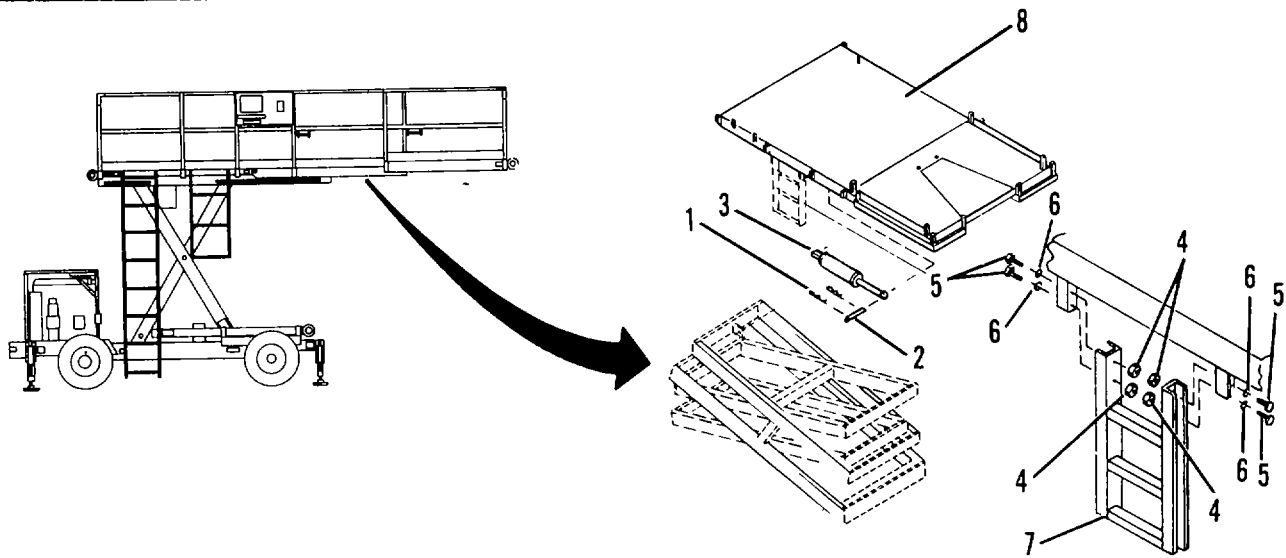

Figure 4-30. Platform Assembly.
- (1) Remove lock clip (1, Figure 4-30) from front cylinder rod eye pin (2).
- (2) Remove front cylinder rod eye pin (2) with a drift. Allow cylinder (3) to hang.
- (3) Remove four nuts (4), capscrews (5) and washers (6) securing ladder (7) to platform (8). Remove ladder (7).